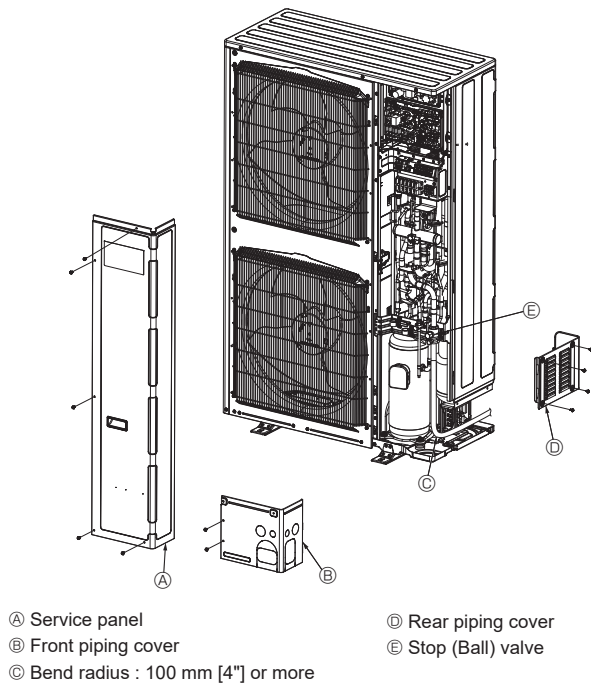

Fig. 4-9
4.4. Refrigerant piping (Fig. 4-9)